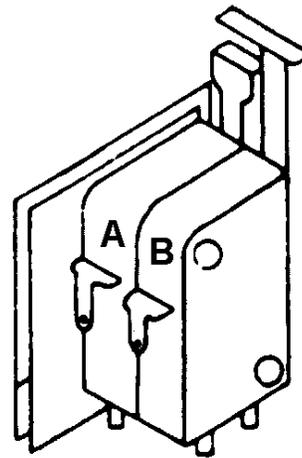

Figure 3
7. Remove the vend/by-pass (double) switch. See figure 3.